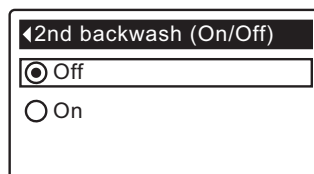

FIG. 54
- 8d. **Second backwash (On/Off):** If the desired option already has a black dot next to it (See Figure 54), go to Step 9. Otherwise, press the DOWN (▼) or UP (▲) buttons to scroll to the other option, then press SELECT (O) to choose it. Setting this feature On adds a second backwash and rinse at the beginning of the recharge cycle. Default is Off. Set this feature On if your water supply contains a lot of sediment or iron.